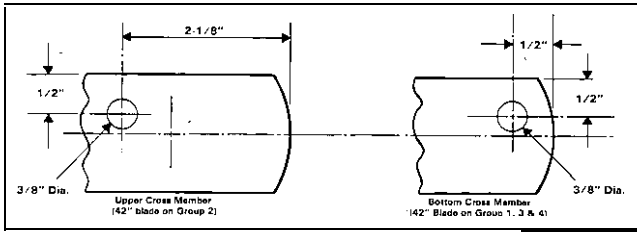

Figure 3. Diagrams of Hitch Templates
5. Drill a hole in the bottom cross member (42" blade on Group 1, 3 and 4 Series tractors) or upper cross member (42" blade on Group 2 tractors) according to the diagrams of the templates in **figure 3**. Actual templates are on a separate insert included with these instructions.
Actual Templates of Figure 3.